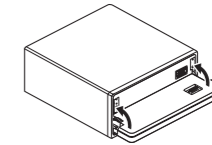

Fig. 17
3. Flip the holders into upright positions. (Fig. 17)